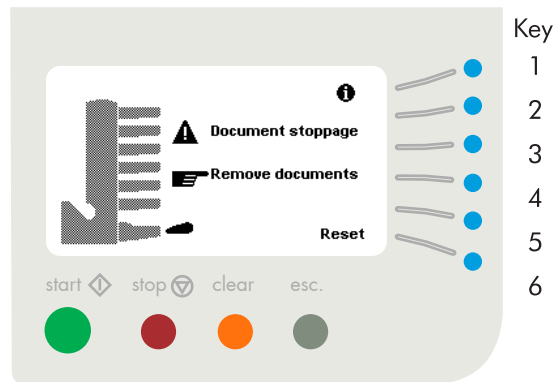

Fig. 52
When a paperflow error occurs the display shows a screen as in Fig. 52 (for example). The menu shows the following functions:
Reset the error after solving the problem with key 6 (see fig. 52).